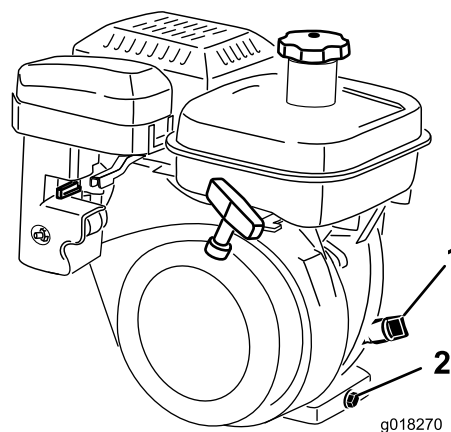

Figure 30
2. Position the mower so the engine is level and clean around the oil level gauge (Figure 30).
3. Remove the oil level gauge by rotating it counterclockwise (Figure 30).
4. Wipe the oil level gauge clean and insert it into the filler port. Do not screw the gauge into the port. Then remove and check the level of the oil. If the level is low, add only enough oil to raise the level until it is between the "H" and "L" marks on the gauge (Figure 30). Recheck the level of the oil. Do not overfill.
2. At the rear of the machine, place a drain pan under the drain plug (Figure 30). Loosen the drain plug.